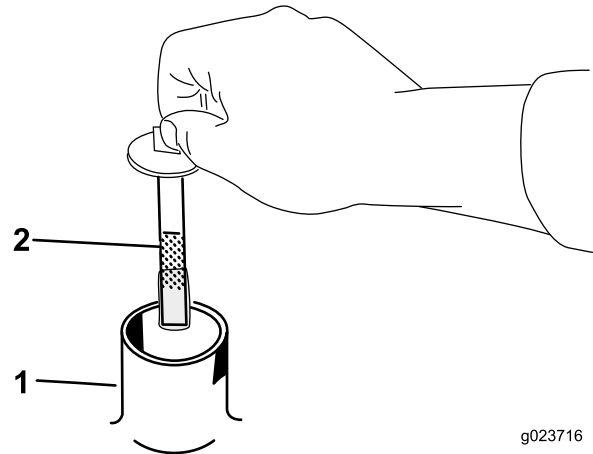

Figure 43
5. Remove the cap from the filler neck and check the fluid level on the dipstick (Figure 43).